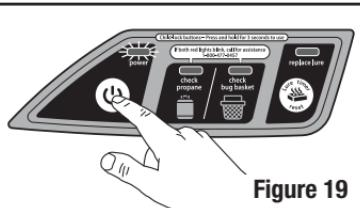

Figure 19
- Press POWER ( $\text{P}$ ), hold 3 seconds until GREEN indicator light blinks (Figure 19). This puts the unit in a cool-down routine which lasts approximately 2 minutes. When the POWER light goes out and the fan shuts down the Mosquito Vacuum is OFF.